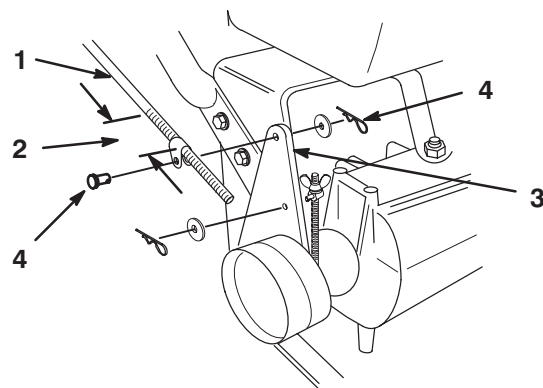

Figure 7
1. Thread rod fittings equal distance onto each control rod. For a starting point, thread fittings on approximately 1-3/4 in. (44 mm) from the start of the threads (Fig. 7).
2. Slide clevis pins through rod fittings and mounting holes in idler brackets (from outside) (Fig. 7). Secure with washers and hairpin cotters (Fig. 7).